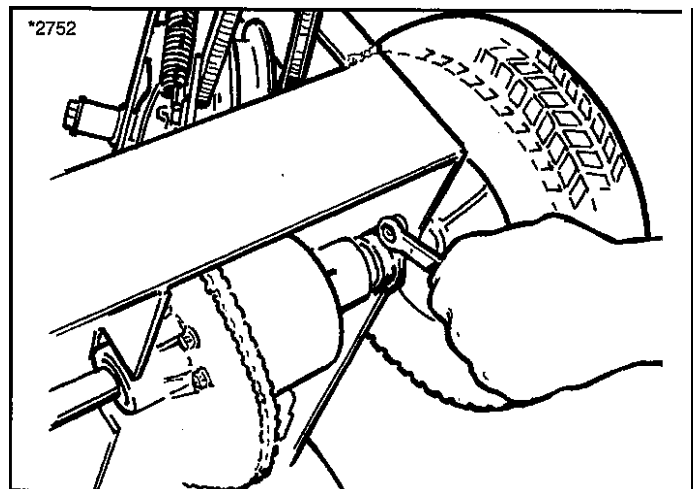

Figure 50. Loosen Hex Nut To Adjust Tension On Right Axle Mounting Bracket
2. Loosen axle mounting hardware at both frame mounting locations to permit movement of drive axle (Figures 50 & 51).